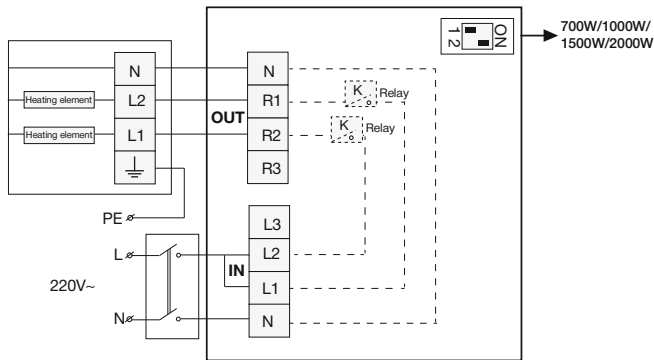

Fig. 4
3. The control unit is connected in compliance with the diagram, specified in Fig. 4, on the case of an infrared heater and terminal block of the control unit.
5. After the unit is connected, switch 2 on the control unit must be switched ON (see Fig. 4), place the top cover of the control unit back and secure the unit on an infrared heater.